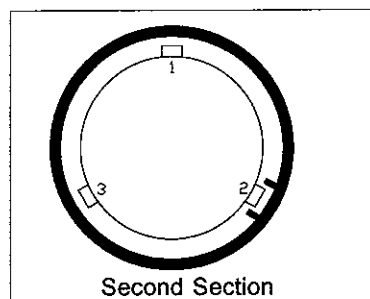

figure 2
- c. Place the second section on the core with the drive pins on either side of tube 2. Be sure the drive pins angle down (figure 2).